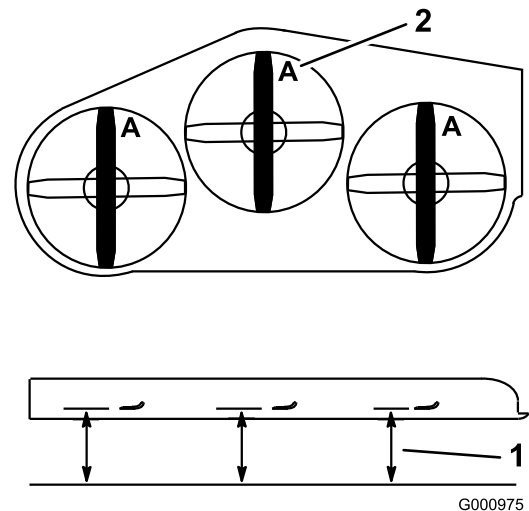

Figure 97
2. Measure from a level surface to the cutting edge, position A, of the blades (Figure 97).